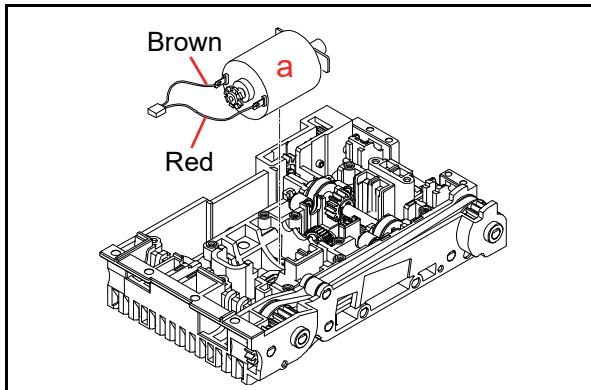

**Figure 4-67 TR Worm Wheel (Twin) Removal (RQ Frame Unit) 3**
3. Remove the Wheel Assy. (Figure 4-67 a).
4. Remove the two (2) Bearings (Figure 4-67 b1 & b2) from the TR Worm Wheel (Twin) (Figure 4-67 c).